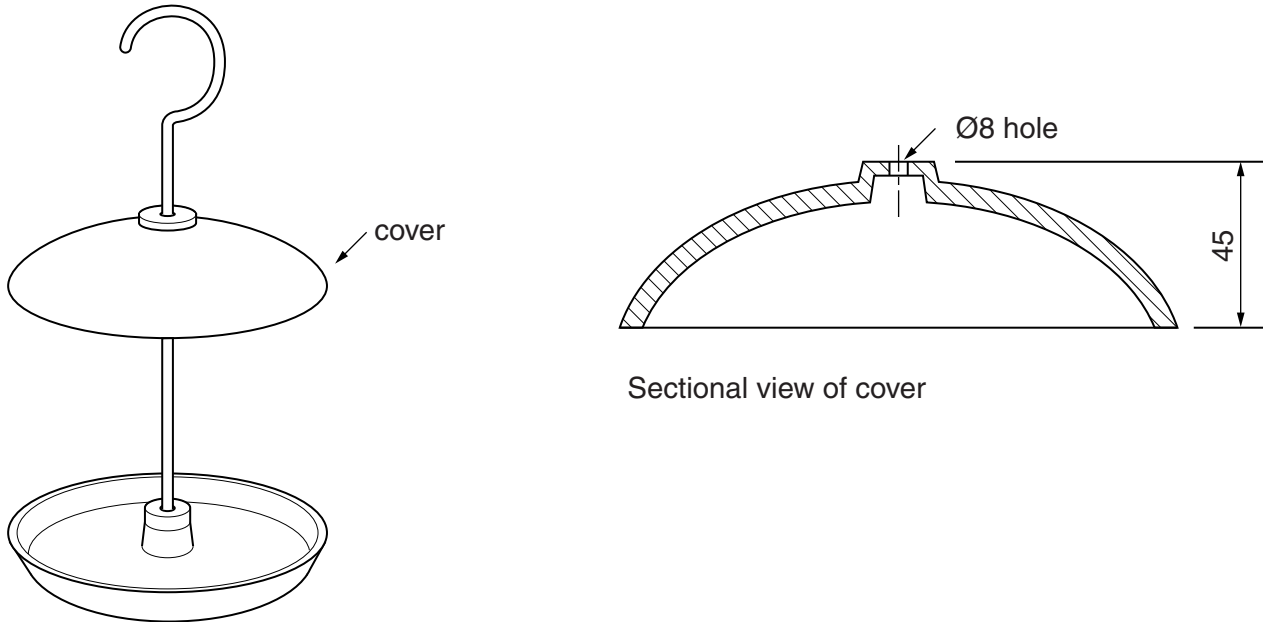

Fig. 1
- 1 Fig. 1 shows a garden bird feeder with details of the cover.
- (a) State a suitable material for a cover of the type shown in Fig. 1 and give **two** reasons for your choice. [3]